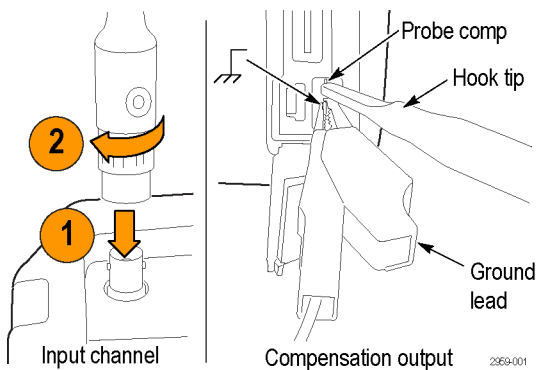

Figure 10: Probe calibration connections
1. Connect the test setup as shown. (See Figure 10.)